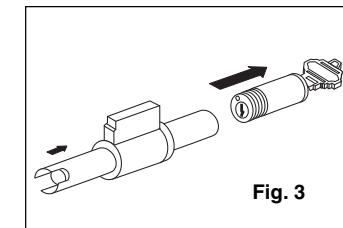

Fig. 3
2. Using slow consistent pressure, push plug follower through cylinder housing to remove cylinder plug. (Fig. 3)